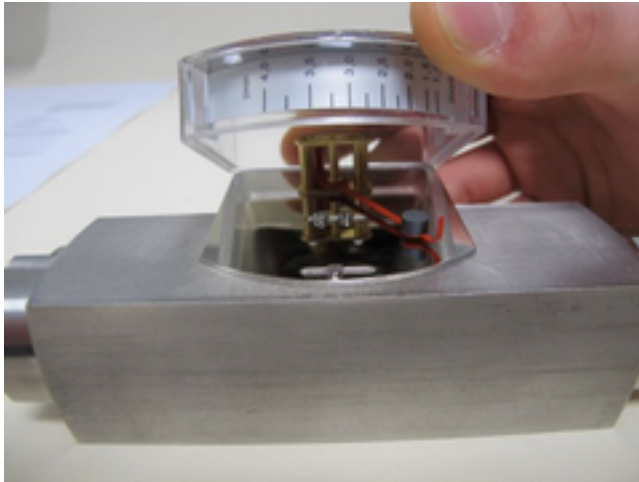

Fig. 44: Display housing Remove
- 2.** → Carefully remove the display cover plate along with the plastic housing from the base plate. Make sure that the pointer movement is not damaged. (*Fig. 44*)